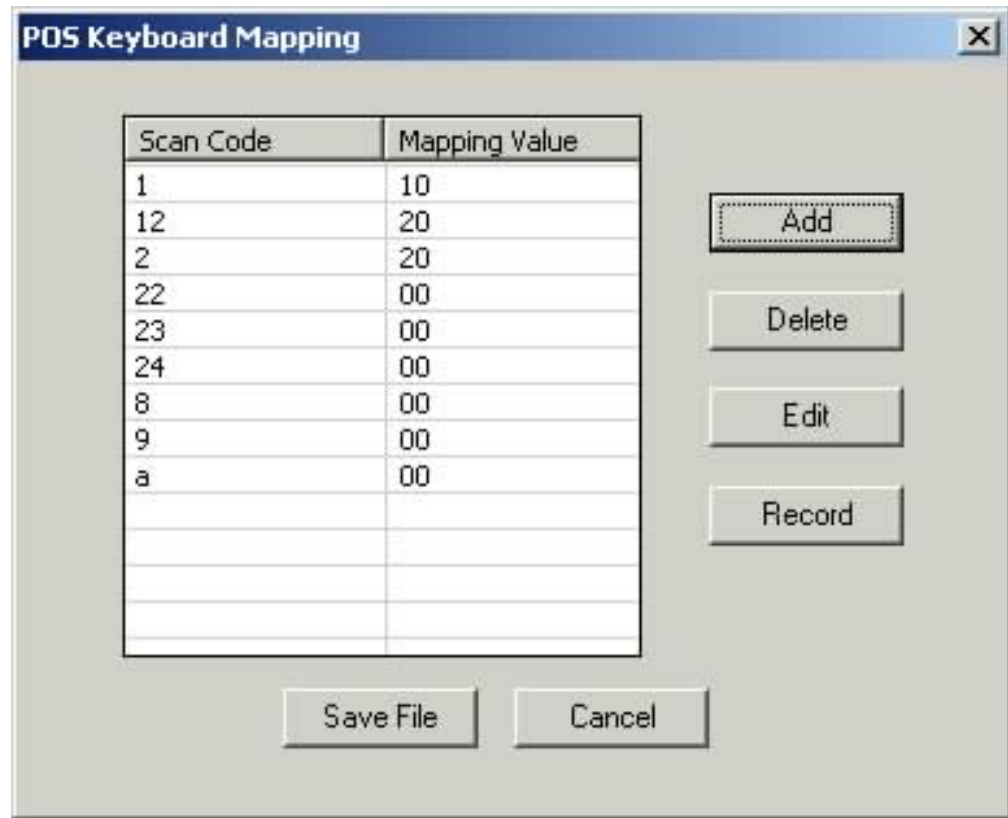

Figure 22. Sample POS keyboard mapping dialog
5. Enter the name of the POS keyboard mapping file. If the file exists, it is read and the values are displayed in the POS Keyboard Mapping window (see Figure 22).